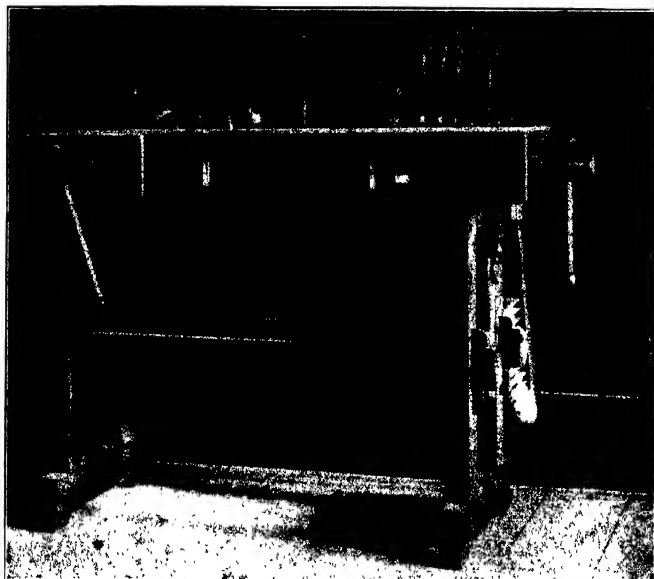
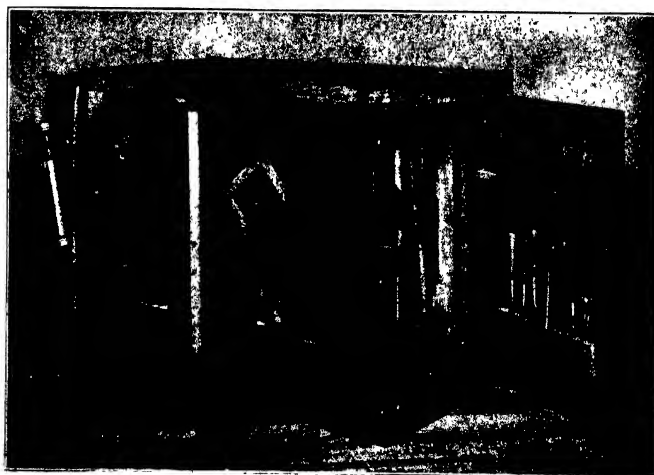
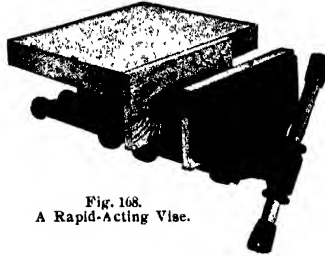
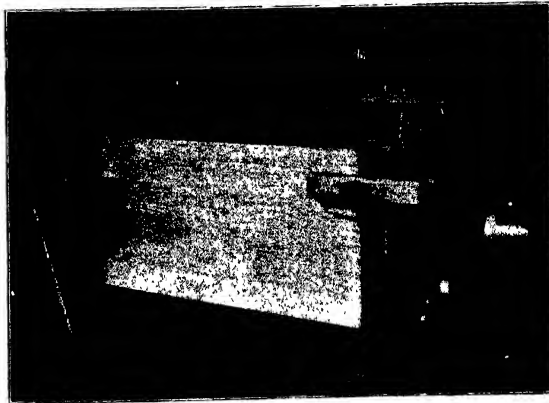

Fig. 166. Bench Made with Pinned Mortise-and-Tenon Joints, Low Back.
Fig. 167. Woodworking Bench Used at Pratt Institute, Showing Self-Adjusting Upright Vise.
Fig. 168.
Fig. 169. Holding a Large Board in Vise for Planing.
been common in school benches to affix it to a board, which rises considerably above the top of the bench, Fig. 169, but a better plan is to have the top of it no higher than the bench-top, Fig. 166. Then the light on the bench is not obscured, and when a flat top is needed for large work it can readily be had by removing the tools. Elaborate benches with lock drawers are also much used in the shops of large city schools.
Vises for holding wood are of three general styles, (1) those with an upright wooden jaw, Fig. 167, which holds wide pieces of work well. They are now made with an automatic adjusting device by which the jaw and the face of the bench are kept parallel; (2) wooden vises with a horizontal jaw, guided by parallel runners, Fig. 166, and, (3) metal rapid-acting vises, Fig. 168. The latter are the most durable and in
when it is to be planed, lest it be bent out of shape. In planing the edge of a board it is ordinarily held in the side-vise. A long board, one end of which is in the vise, may also need to be supported at the other end. This may be done by clamping to it a hand-screw, the jaw of which rests on the top of the bench, Fig. 169. When the vise is likely to be twisted out of square by the insertion of a piece of wood at one end of it, it is well to